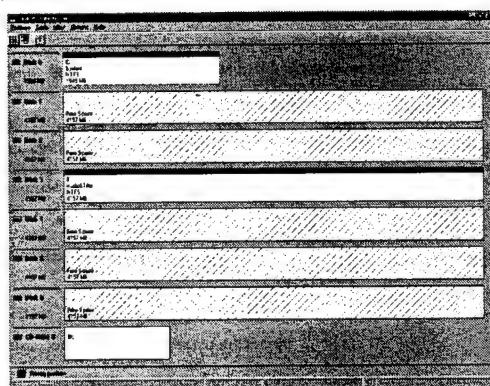

Fig. 1 Disk Administrator dialog box
5. The Disk Administrator now starts up, and the dialog box shown in Fig. 1 appears on the screen.
1. Click the disk which needs to be formatted while the Disk Administrator dialog box shown in Fig. 1 is on the screen.